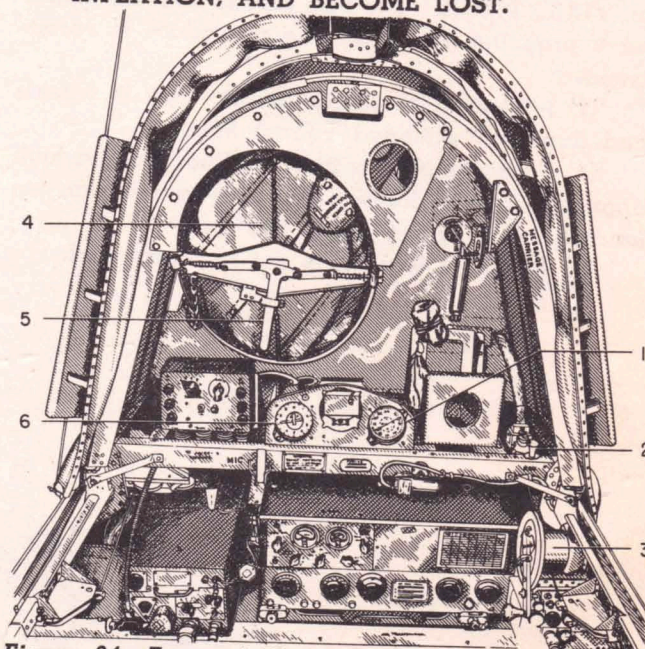

Figure 34—Forward View of Aft Cockpit
a. The life raft and emergency equipment is stowed in a tube located in the fixed enclosure (see figure 34) forward of the gunner's cockpit, with the emergency equipment stowed forward of the raft. The procedure for removing the raft and emergency equipment, and inflating the raft, is as follows:
(1) Release lock assembly on end of stowage tube by pulling the handle (see figure 34) inboard.
(2) Grasp the life raft packet firmly with both hands and pull sharply aft. The emergency equipment is secured to the forward end of the raft.
(3) Continue to pull on life raft until emergency equipment packet is free of the tube.
(4) To inflate raft, follow instructions stencilled on the release flaps: "TO OPERATE—LIFT FLAP AND PULL HANDLE HARD".
Parts list for figure 34.